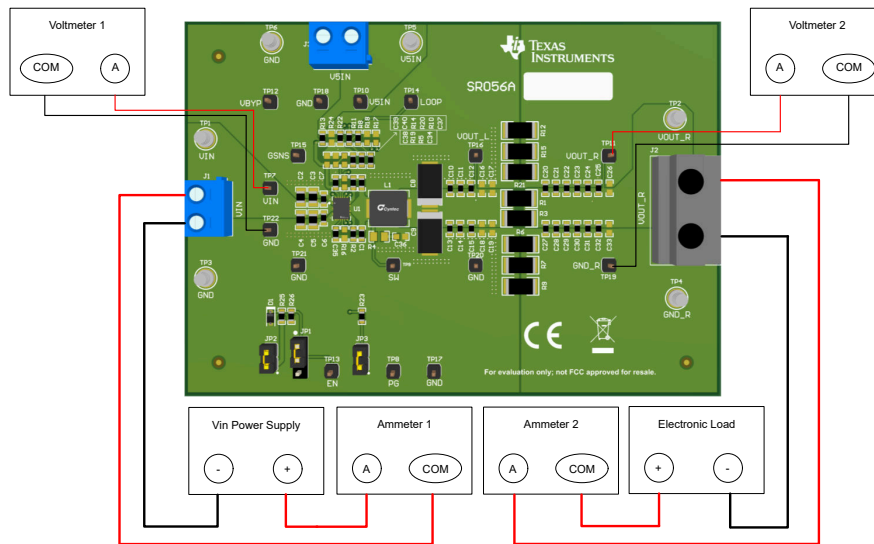

Figure 2-1. EVM Test Setup
Referencing the EVM connections described in Table 2-1, the recommended test setup to evaluate the TPS51375 is shown in Figure 2-1. Working at an ESD-protected workstation, make sure that any wrist straps, boot straps, or mats are connected and referencing the user to earth ground before handling the EVM.
1. Prior to connecting the DC input source, set the current limit of the input supply to 0.1A maximum. Make sure the input source is initially set to 0V and connected to the VIN_SNS and GND_SNS connection points as shown in Figure 2-1.
2. Connect bypass DC source and set the current limit of the input supply to 0.1A maximum. Make sure the input source is initially set to 0V and connected to the V5IN and GND connection points as shown in Figure 2-1.